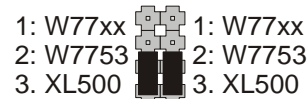

Fig. 6. Jumper setting of CLCM4T,5T,6T (PANTHER)
3. Verify wall module wiring with Table 3 or Table 3 and jumper setting with Fig. 6.
The jumper setting of the CLCM4T,5T,6T with the PANTHER is shown in Fig. 6.